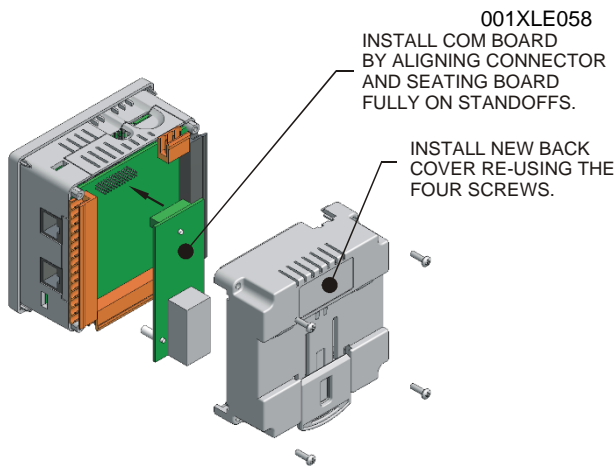

Figure 2 - Installing the Profibus Com Module in the XLE
- d) Plug the communication board onto the 24-pin connector. Make sure all the pins are properly aligned (Figure 2).
- f) Place the screw back into the hole and turn the screw slowly counter clockwise until it clicks into the threads. This prevents the screw from being cross-threaded. Now, turn the screw clock-wise until the cover is firmly secured. Repeat this process for all four (4) screws.